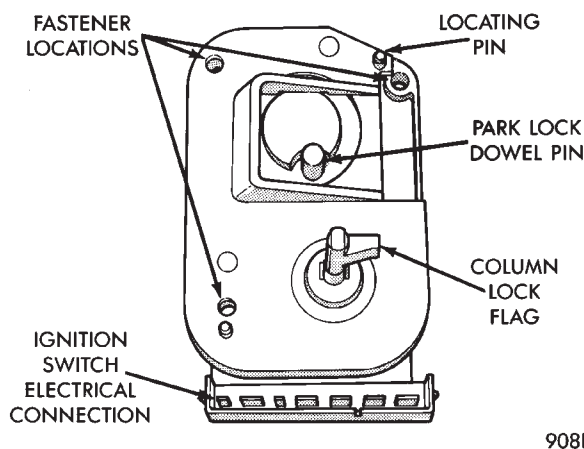

Fig. 5 Ignition Switch View From Column
(1) Connect electrical connectors to the ignition switch. Make sure that the switch locking tabs are fully seated in the wiring connectors.
(2) Before attaching the ignition switch to a tilt steering column, the transmission shifter must be in the Park position. Also the park lock dowel pin and the column lock flag must be properly indexed before installing the switch (Fig. 5).
(b) Place the ignition switch in the lock position. The switch is in the lock position when the column lock flag is parallel to the ignition switch terminals (Fig. 5).